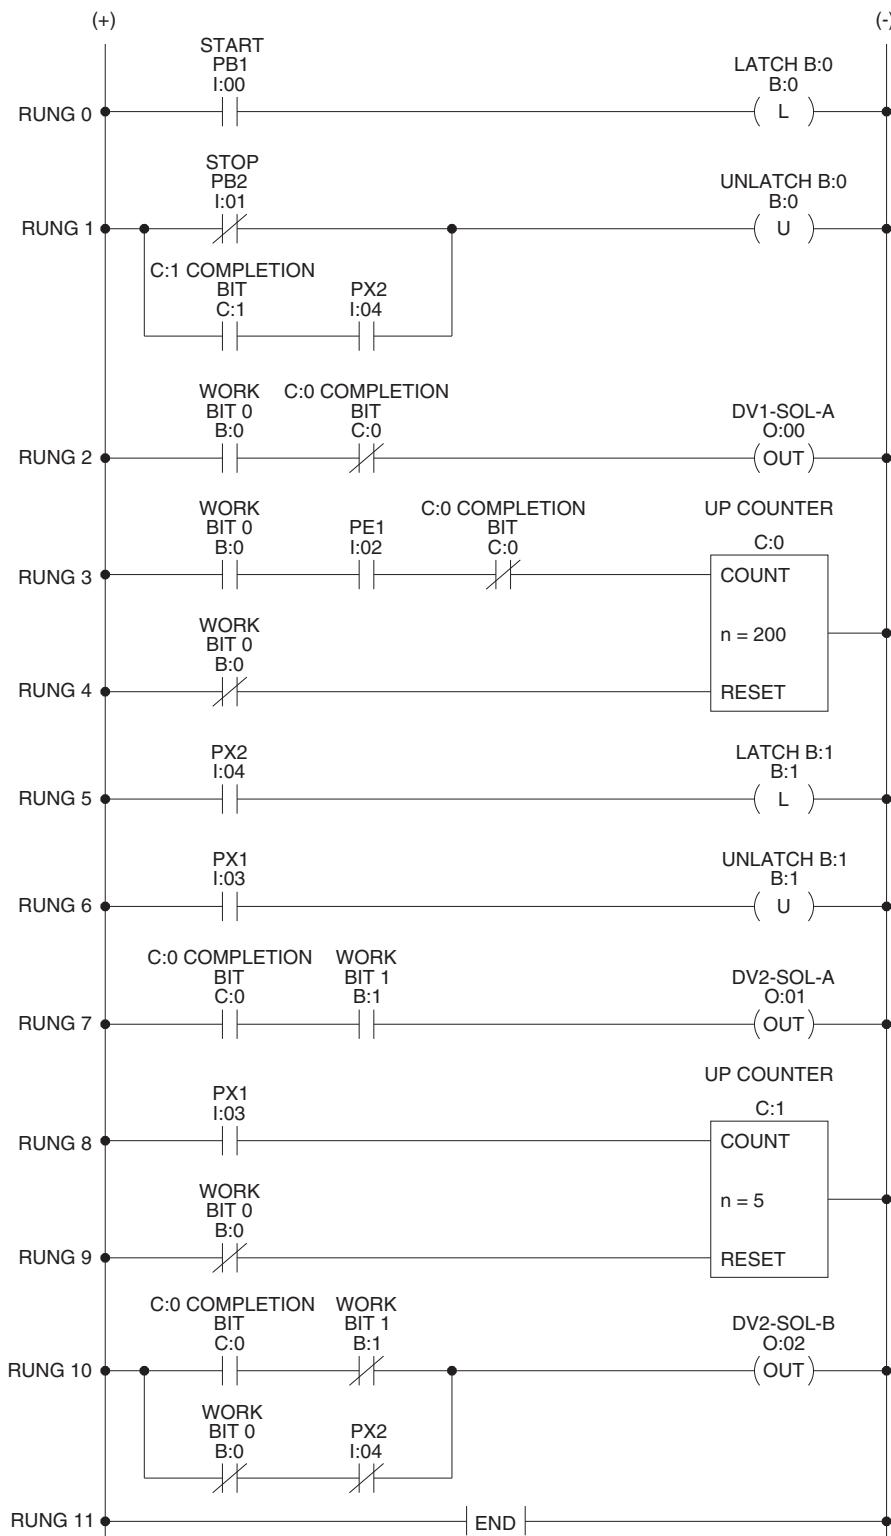

Figure 6-2. PLC ladder program.
- 4. Enter the PLC ladder program shown in Figure 6-2, using the instruction address format appropriate to your model of PLC.
□ 11. Cycle the system a few times and monitor the PLC program as it is executed. What causes the motor to start rotating when PB1 is depressed? Explain by referring to the PLC ladder program shown in Figure 6-2.
4. In the PLC ladder program of Figure 6-2, what purpose is served by NC contact instruction C:0 in rung 3?
5. In the PLC ladder program of Figure 6-2, what purpose is served by NC contact instruction B:0 in rung 4?